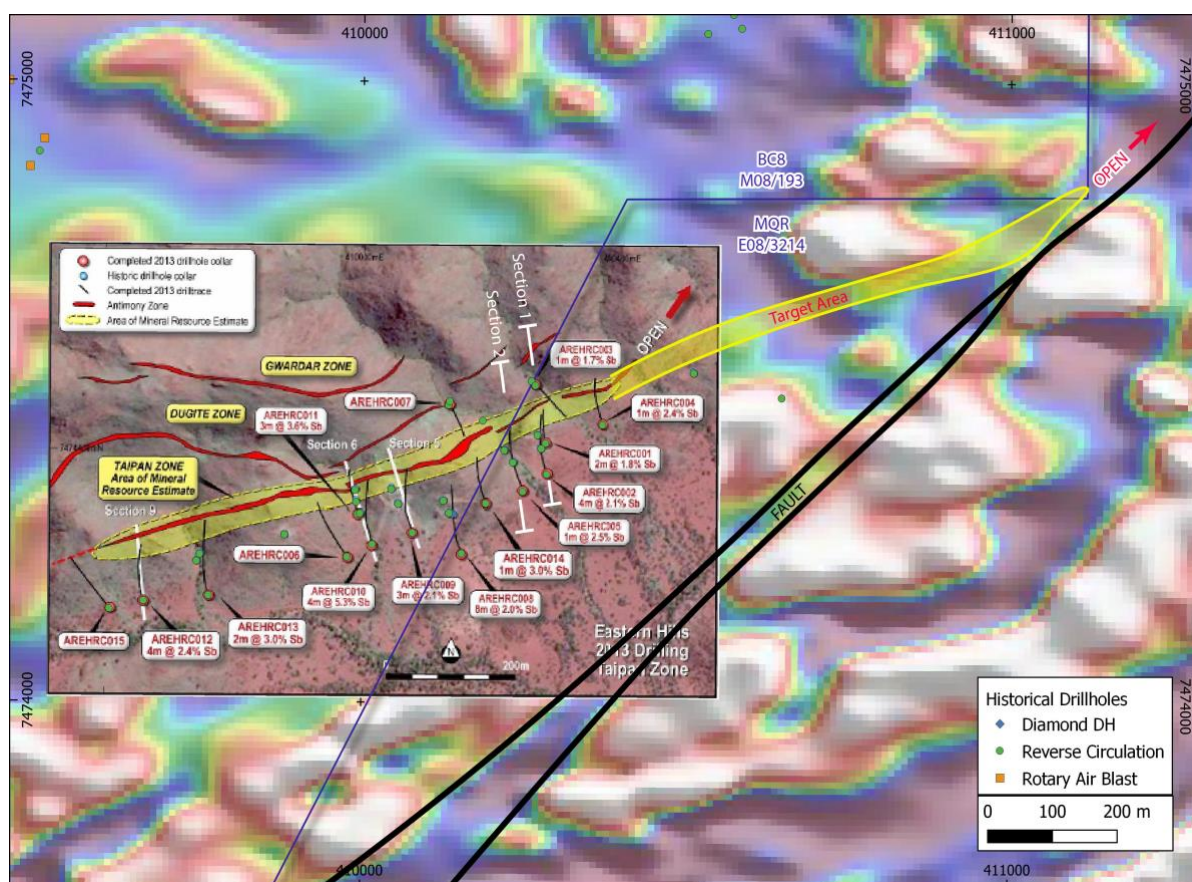
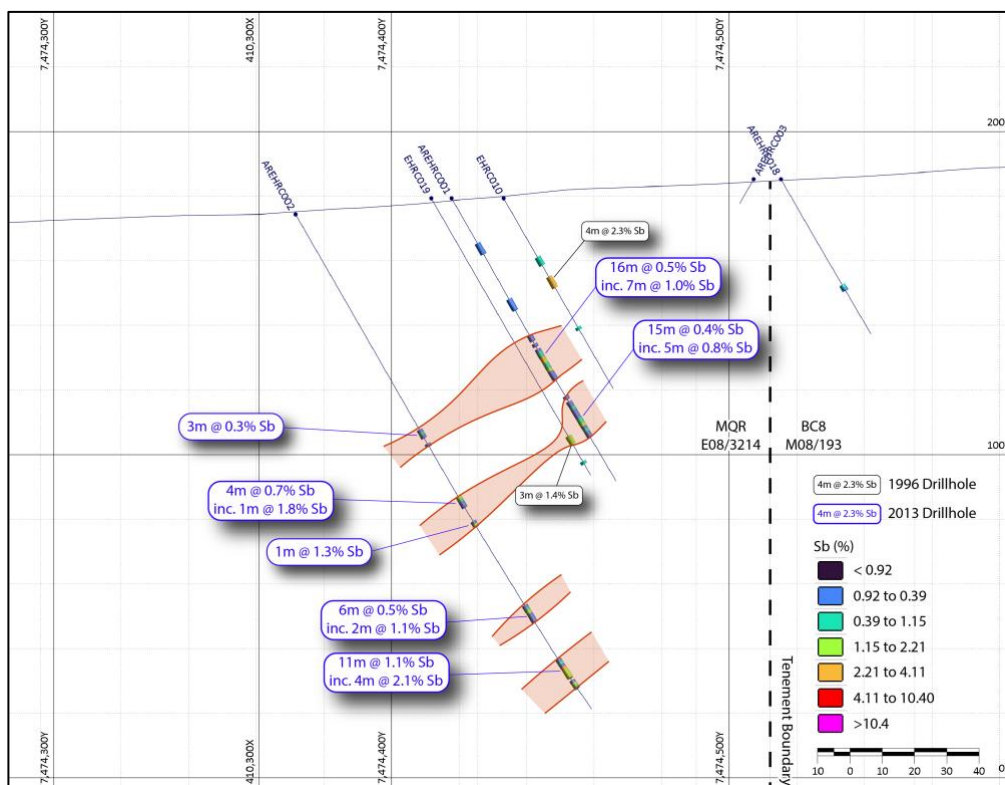

Figure 2: Magnetic image of Eastern Hills area. Inset courtesy of ASX:ARV (Refer ARV ASX Release dated 29 Nov 2013).
Figure 3: Cross Section #1 highlighting historical drill hits sitting within Marquee tenure.
- Artemis's Resource Estimate only included mineralisation from the Taipan Zone, which has a strike extent of approx. 850m (Figure 2). Further exploration by Artemis and others has since identified additional mineralised zones, the Dugite and Gwarder zones.
- **The Taipan structural trend extends for a further 800m onto Marquee ground, but the area has had little to no exploration and thus remains open for the identification of further antimony bearing zones (Figure 2).**
The Mount Clement (Eastern Hills) Antimony-Lead deposit was originally explored by BHP and Taipan Resources before Artemis Resources Ltd published a maiden JORC compliant resource of 1.3 Mt @ 1.7% Sb, 2.5% Pb, 24g/t Ag and 0.34g/t Au (Refer ARV ASX Release dated 29 Nov 2013). The Resource Estimate only included mineralisation from the Taipan Zone, which has a strike extent of approx. 850m (Figure 2). Further exploration by Artemis and others has since identified additional mineralised zones, the Dugite and Gwarder zones.
Historical drilling completed by Artemis indicates approximately 220m of known mineralisation sits within Marquee tenement E08/3214 (Figures 2-4). The Taipan structural trend extends for a further 800m onto Marquee ground, but the area has had little to no exploration and thus remains open for the identification of further antimony bearing zones (Figure 2). The limited drilling completed also indicates that mineralisation is open down dip (Figure 3 & 4) and depth extensions will be targeted in future drilling programs.